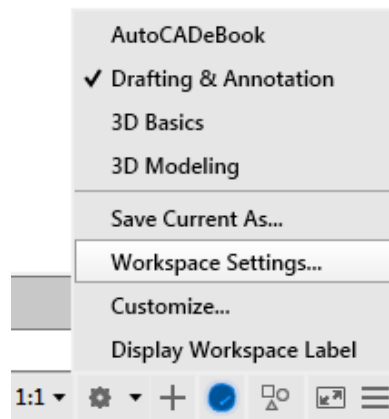

Figure Step 12
Step 12 In the Workspace pull-up menu, click Workspace Settings... This will open the Workspace Settings dialogue box. (Figure Step 12)